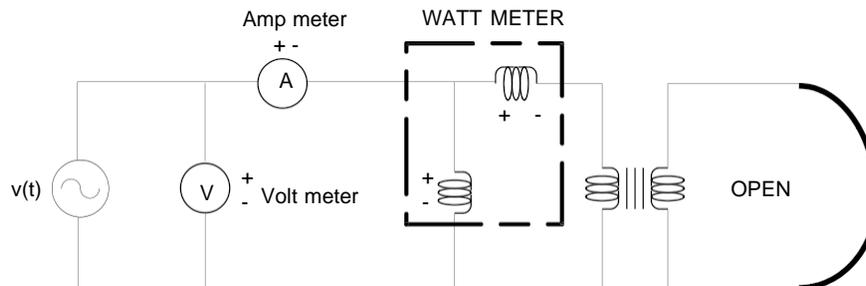

Figure 4.2
- (1) Connect the diagram in Figure 4.2.
- (2) Start applying voltage from 0 to approximately 10% of the rated voltage.
- (3) Obtain readings for  $P_{sc}$ ,  $I_{sc}$ ,  $V_{sc}$  and then turn off the voltage supply